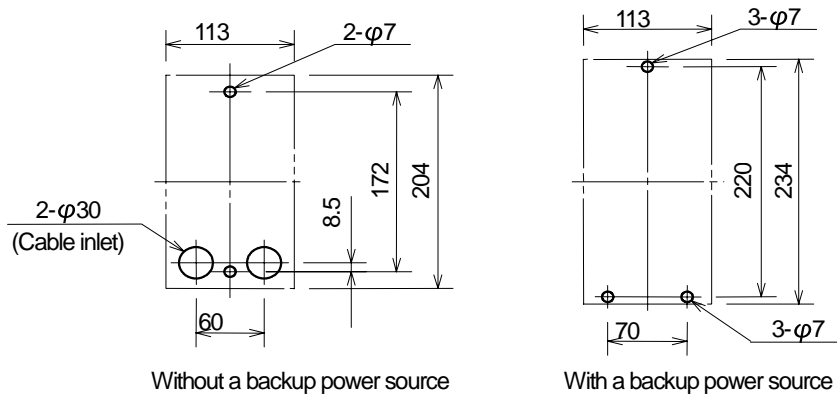

Fig. 4 Dimensions for Hanging the Equipment on the Wall
- ① Make holes on the wall as shown in Fig. 4.
- ② If the equipment has a backup power source, attach two mounting plates on the top and bottom of the equipment.
- ③ Align anchors with the holes, then insert a bolt in the upper hole.
- ④ Insert it in the hole on top of the equipment, insert the other bolt in the bottom hole, then tighten both bolts.